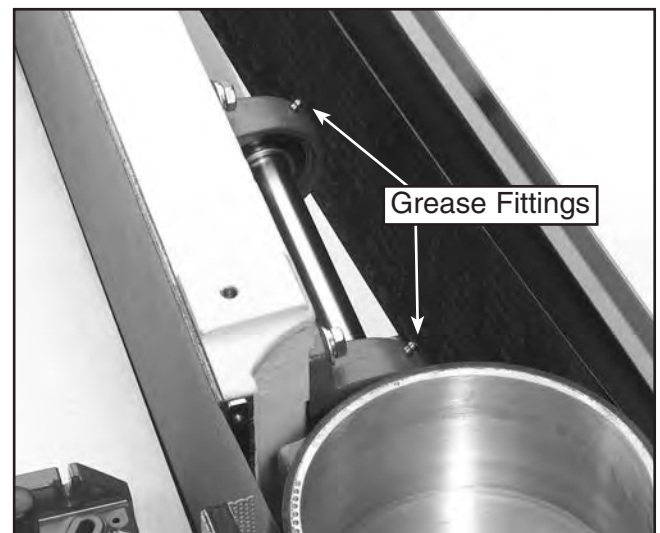

Figure 20. Oscillation grease fittings.
There are (2) grease fittings shown in **Figure 20**. Grease these points after approximately 50 hours of use.